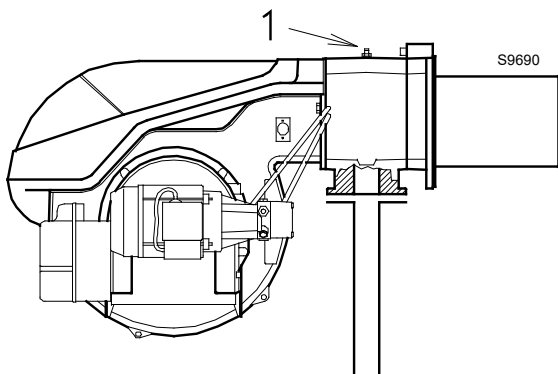

Fig. 22
Gas pressure measured at test point 1)(Fig. 22), with:
To calculate the required gas pressure at test point 1) (Fig. 22), set the maximum modulating output required from the burner operation:
- Read, on the right (column 1), the pressure at the test point 1) (Fig. 22).
pressure required at test point 1)(Fig. 22).